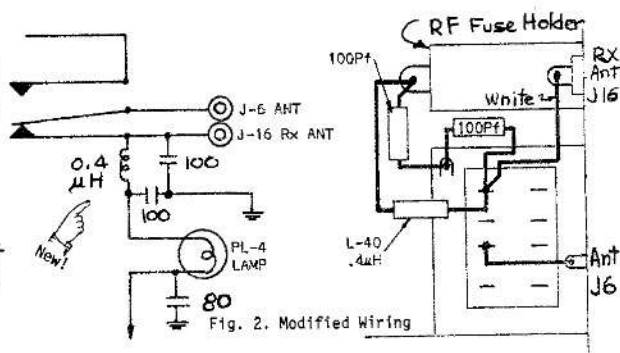

Fig. 2. Modified Wiring
- * Remove the bottom cover and locate RL-2 (the Antenna relay) and run one white wire between J-16 (the RCV Ant jack) and RL-2 as shown in Fig 2. To the same point, add one end of a 0.4 microhenry choke and one end of a 100pF capacitor and solder into place.